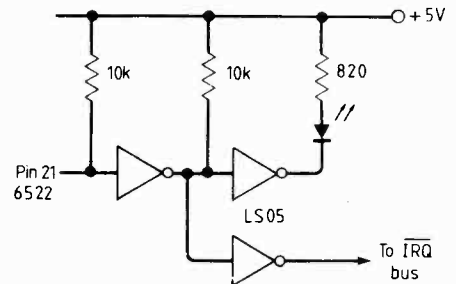

**Fig. 9.** Logic for converting outputs from a 6800 processor for use with an 8255 and a 6522.
is given in the appendix although readers are urged to obtain a copy of the Rockwell booklet which covers this i.c. The basic connections were given in the previous articles, but there are some additions; Fig. 7 and Fig. 9 cover both the 8255 and the 6522.
booklet with the addresses against each register. Note that the booklet refers to decimal numbers for the registers and that register 11 (actually A70B) is described on p13 and p16. The 6522 requires a system clock signal  $\phi_2$ , a RESET, CS and R/W in addition to the data-bus and four low-order address lines, which connect to the Register Select pins. For interrupt control of the processor the  $\overline{IRQ}$  output should be buffered as in Fig. 9 — the led output is useful for program development though not essential. The two timers are each 16-bit and may
**Fig. 11.** Block diagram of the 6522 "versatile interface adapter" showing features used in this project. Note that both ports may be bit-programmed as inputs (although PB6 and PB7 are 'lost' to the timer function). The interrupt lines CA1-2 and CB1-2 are not all bi-directional. The input to timer1 is from the system clock and it is essential that this is not prescaled since it is used to enter register data along with CE and R/W (see also Fig. 9).